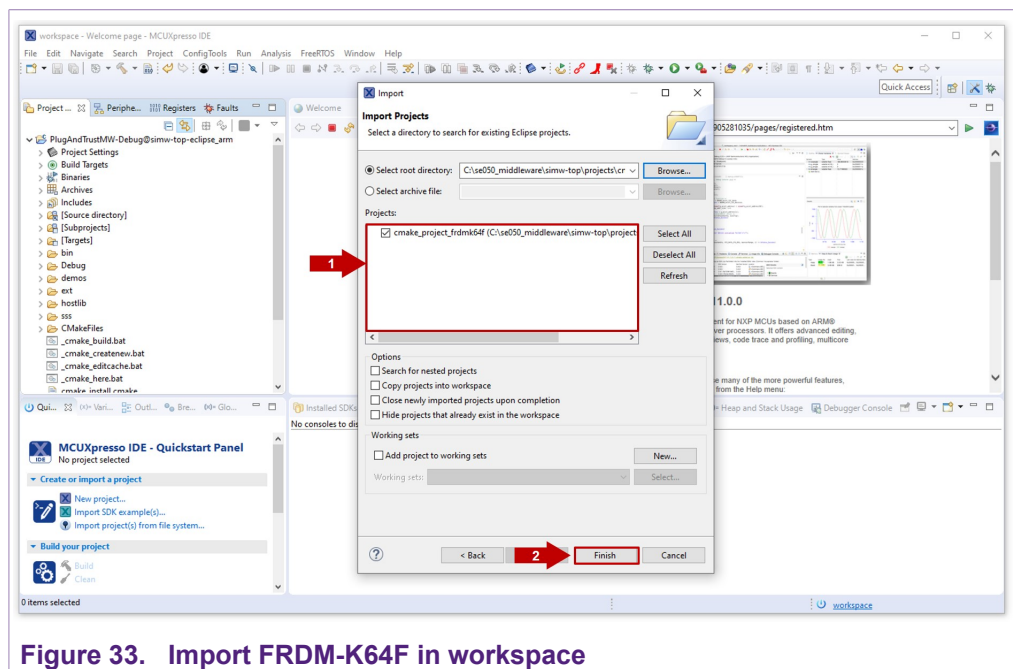

Figure 33. Import FRDM-K64F in workspace
4. After selecting `C:\se050_middleware\simw-top\projects` folder, the `cmake_projects_frdm64f` project should be visible in the "projects" area. Click *Finish* button to import this project into your workspace as shown in Figure 33: